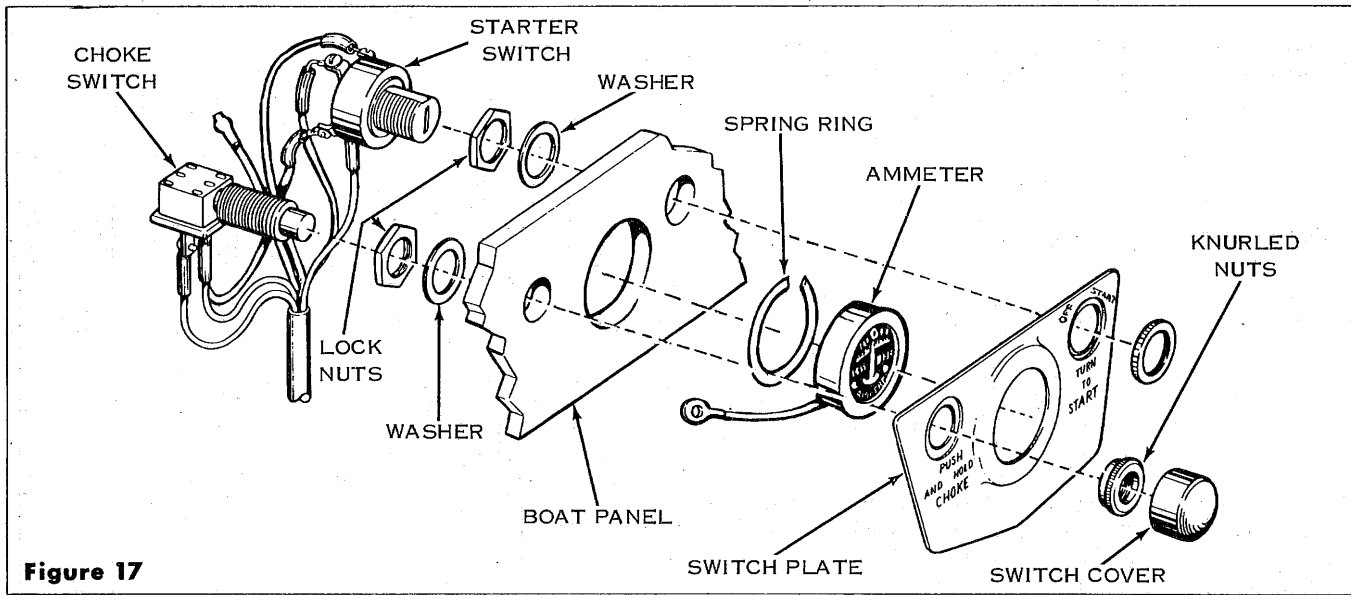

Figure 17
3. Remove the green wire and insulating washer and retaining bracket from the ammeter. On this installation, the spring ring (shown in Figure 17) is normally not used.
switch lock nuts at rear of dashboard. Then take rubber switch button cover off choke switch and remove knurled nuts from front of switches. Switches and switch plate can then be removed. It is NOT NECESSARY TO REMOVE WIRES FROM SWITCHES. See Figure 17.
6. Insert the ammeter, with terminals and wire, through the hole in the dashboard from the front side. Spring ring will be between the front ammeter flange and the dashboard. See Figure 17.
7. Place the switch plate over the ammeter, so that the ammeter face protrudes through the large center hole. Insert switches through the holes in the dashboard and switch plate. Be sure washers are placed between lock nuts and boat panel. Fasten switches at the front of the switch plate with the knurled nuts. Tighten lock nuts on switches at the rear of dashboard to secure the assembly. Place the rubber cover over the switch. See Figure 17.